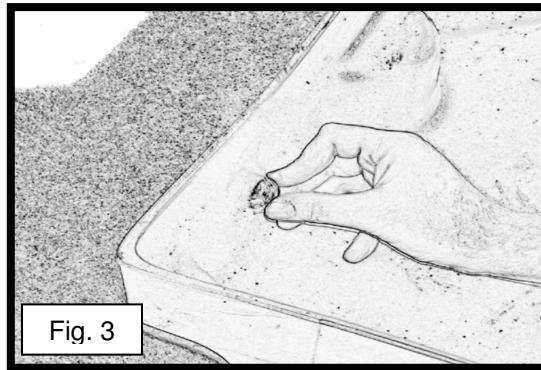
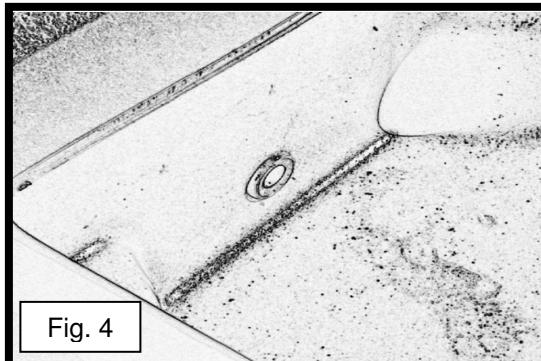

Fig. 3
Fig. 4
- 3) Insert the rubber grommet into the drilled hole (see fig. 3). Use the end of the screwdriver and putty knife to "walk" the grommet around the hole. Work the grommet into the hole from both sides of the accumulation center. After you have seated the grommet correctly, it should look like figure 4. Repeat step three for the opposing accumulation center.